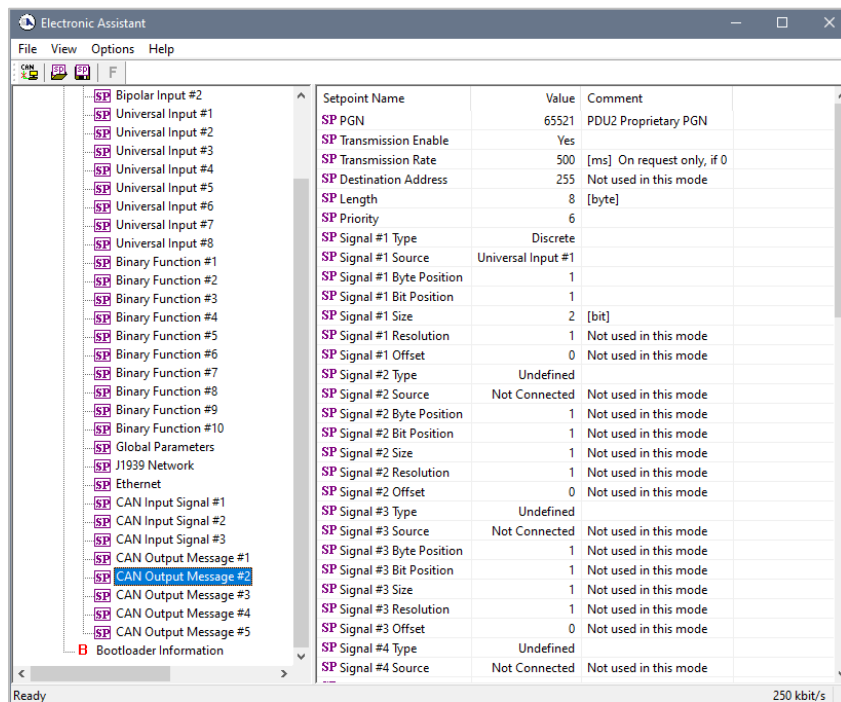

Figure 21. CAN Output Message #2 Example Configuration
Then configure *CAN Output Message #2*. Set common parameters: *PGN* to 65521, *Transmission Enable* to “Yes”, *Transmission Rate* to 500 ms. Keep default values for *Length* (8 bytes) and *Priority* (6), see Figure 21.